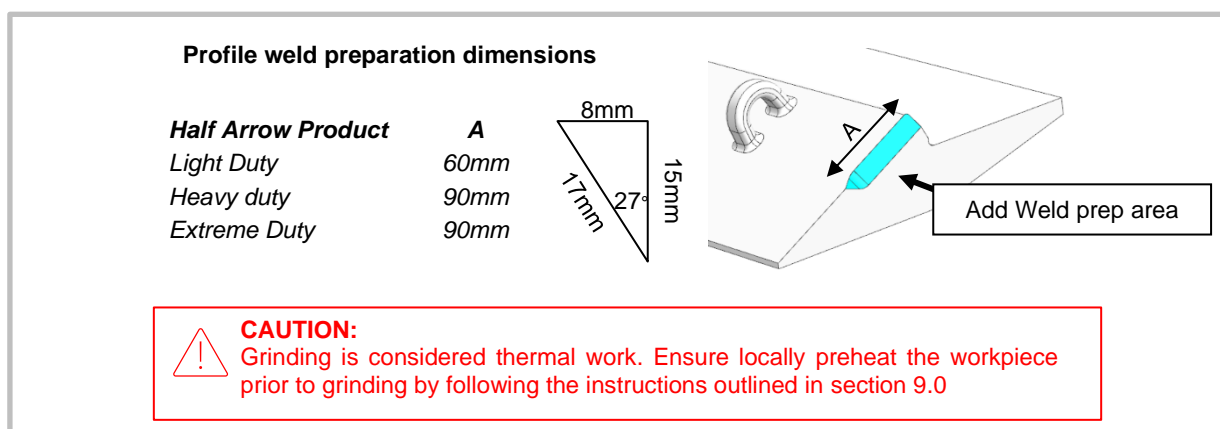

Figure 2 Weld prep size and location.
11.1.5. Grind a beveled weld prep edge (use Profile W below) into the trimmed surface of the workpiece (see Figure 2) to the appropriate A length.